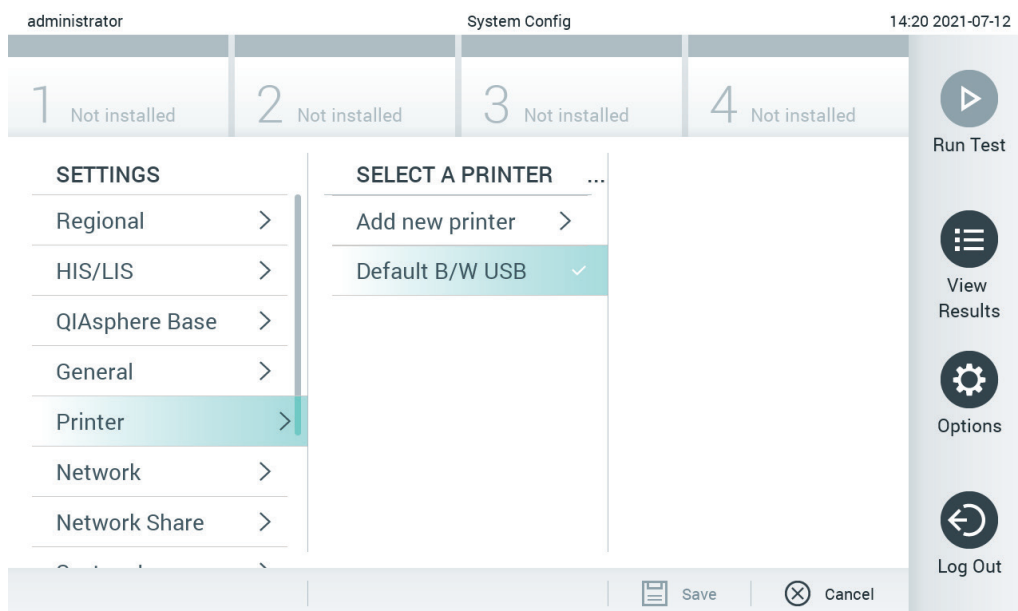

Figure 100. Printer installation with default driver
2. Select **Default B/W USB**. This is the default printer. (Figure 100)